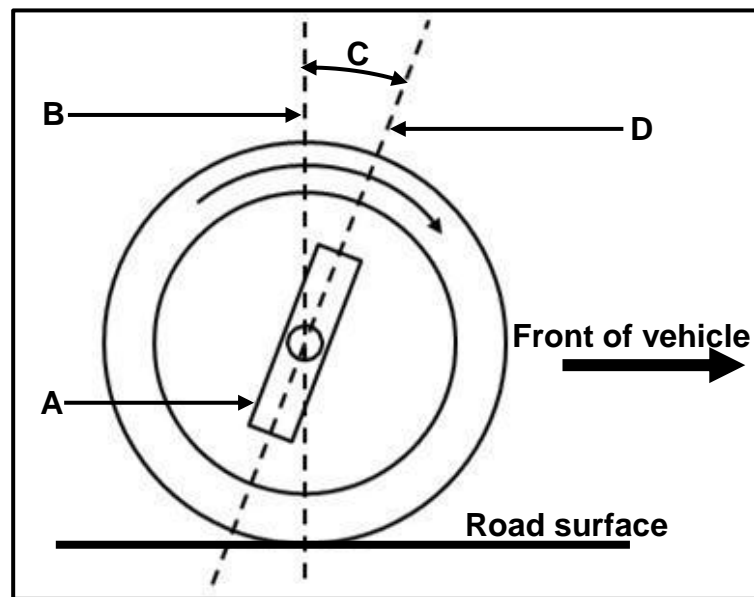

FIGURE 10.4
- 10.4 FIGURE 10.4 below shows a sketch of a wheel alignment angle. Label A–D. (4)